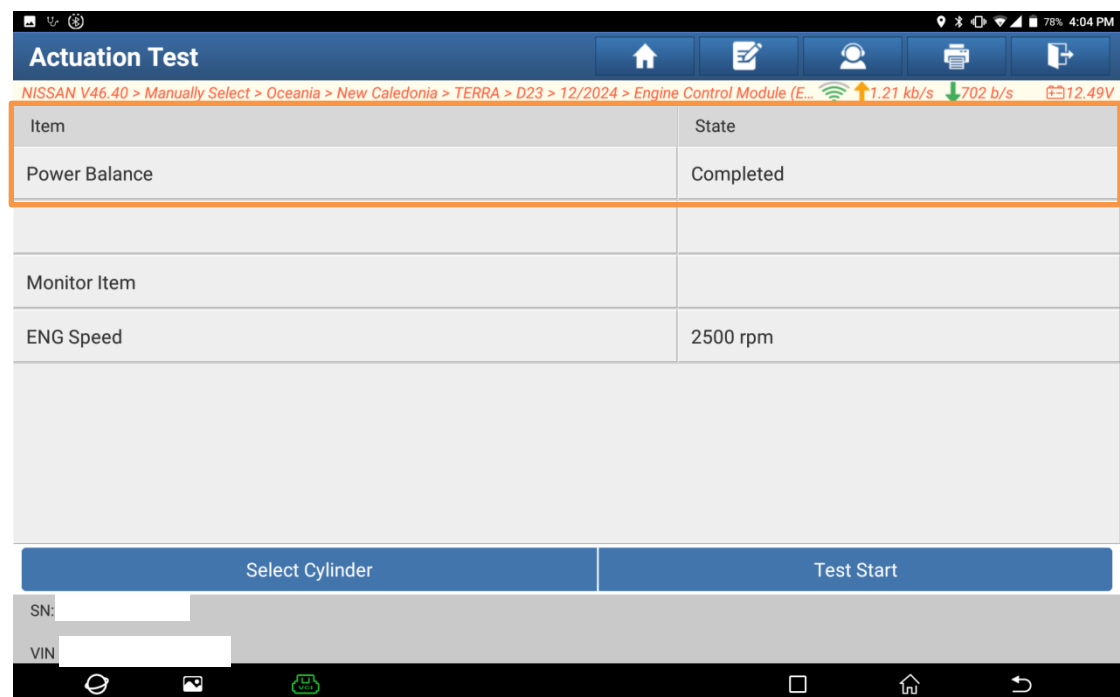

Figure 16
11. During the power balance test, the diagnostic tool sends control commands to the engine control unit to temporarily disable each cylinder in a specific sequence while monitoring engine speed in real time. By carefully observing the engine speed readings on the tool and comparing the changes in speed before and after disabling each cylinder, evaluate each cylinder's contribution to the engine's total power output, determine whether the cylinders are operating in a balanced manner, and identify any malfunctioning cylinders. Once the function completes, the [Power Balance] status bar will display a [Completed] message (Figure 16).